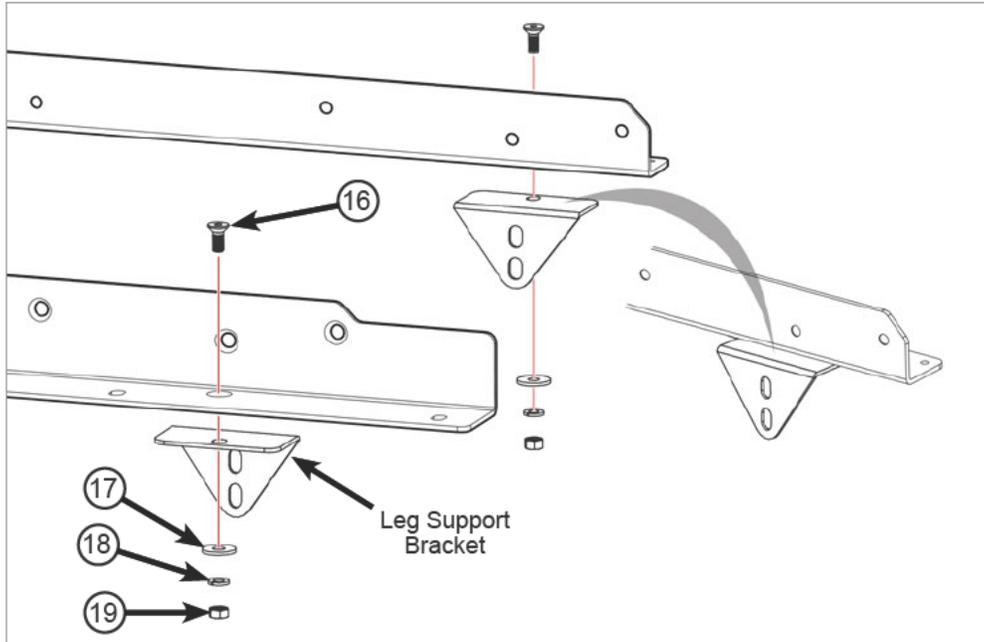

Fig. 18
8. Locate the two leg support brackets. Remove the two M8 x 20 countersunk socket head bolts (16) from the T-Glide Table Hardware Pack along with two M8 washers (17), two M8 lock washers (18) and two M8 hex nuts (19). Mount one leg support bracket to the underside of each of the rails (See Fig. 18). Hand tighten the nuts; do not fully tighten them.
Once mounted, the brackets should create a shelf as shown in the detail view of Fig. 18.